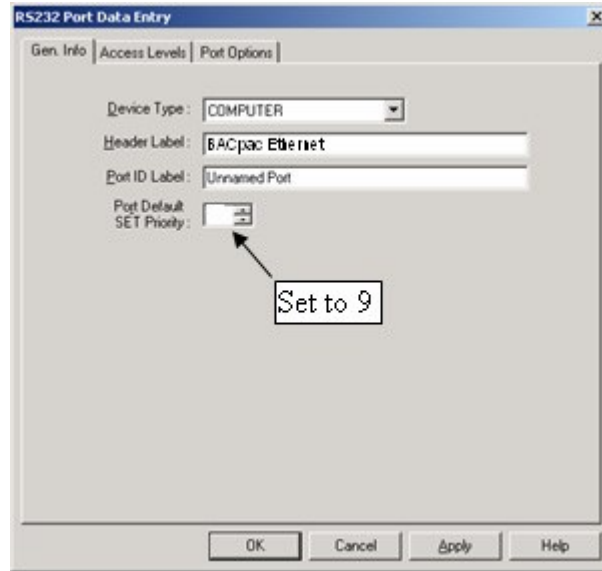

Figure 5: Port Default SET Priority
2. Leave the Port default SET priority at the default of 9, as seen in Figure 5. This will restrict access to panel features, like Silence, Acknowledge and Reset. These features will only be available from the front panel or on another approved network device like a workstation, NDU or LCD Annunciator.